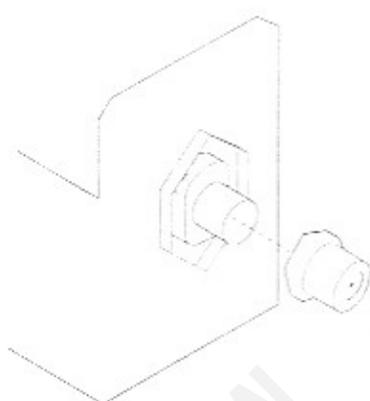

Figure 29
To derate this unit, order and install the appropriate high altitude orifice kit per the chart below. Remove the two (2) screws found at the base of the burner tray and remove the burner tray with tube. Use care to prevent damage to the air shutter adjustment rod. Remove the orifice (*Figure 29*) and replace with the appropriate one from the kit. Refer to the chart below. Be sure to attach the conversion sticker provided with the kit to the rating plate on the appliance.